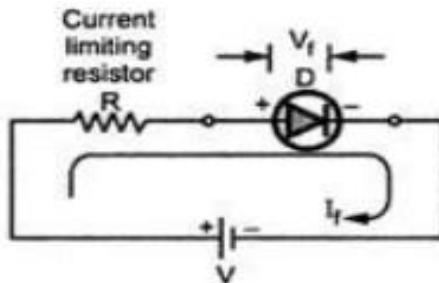

Fig. 1.5 Forward biased diode
- The Fig. 1.5 shows the forward biased diode.